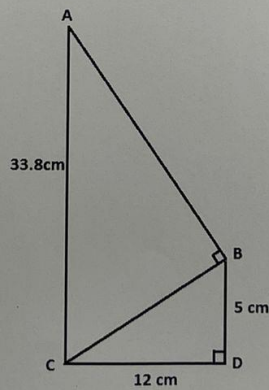

FIG Q4
- (a) From the graph create a data table for the points shown. (2)
- (b) Derive an expression relating the points shown. (3)
- (c) Using the expression derived in Q3(b), determine the value of  $y$  when  $x = -3$ . (3)
4. Consider the shape given in FIG Q4 (not to scale) where  $AC$  and  $BD$  are parallel: